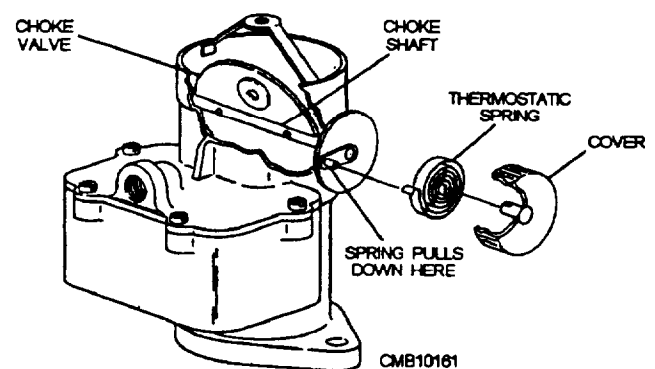

Figure 4-32.—Automatic choke.
- Automatic chokes (fig. 4-32) have replaced the conventional manual choke. They control the air-fuel ratio for quick starting at low temperature and also provide for the proper amount of choking to enrich the air-fuel mixture for all conditions of engine operation